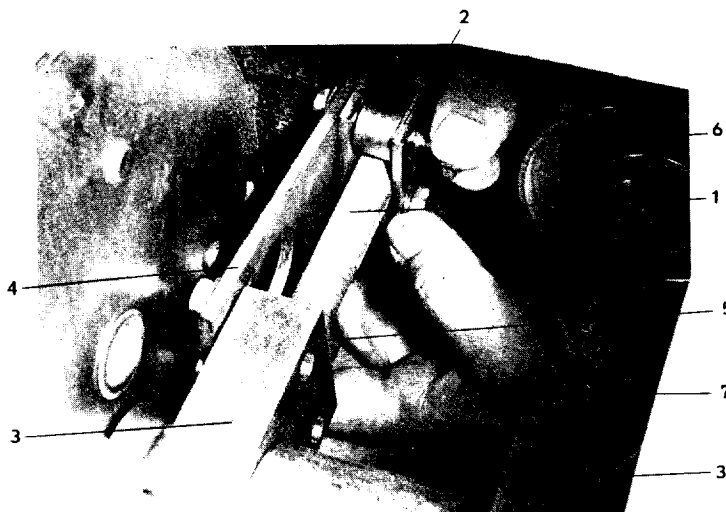
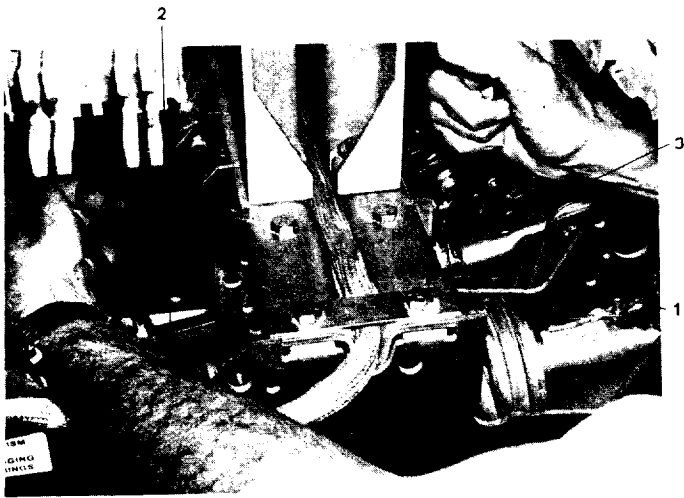

Fig. A10a Flywheel Brake
Fig. A10b Pull Rod
To remove the brake, remove the clamp, (2) Fig. A10a, that holds the brake assembly to the pullrod and then remove the two bolts that mount the brake to the flywheel block. Reinstall the new brake in the reverse order.
Charge and gag the closing spring and press the manual close push button. Remove the flywheel brake assembly (Reference paragraph A.5.20). The pull rod is a turn buckle arrangement with right hand threads on one end and left hand on the other. Loosen the jam nuts, (5) Fig. A10a and (3) Fig. A10b, on each end of the pull rod and remove the pull rod by unscrewing it. Remove the jam nuts and install them on the new pull rod. Install the new pull rod and screw both ends in simultaneously. Set the length of the pull rod initially to approximately 13¼ inch between the flywheel block, (3) Fig. A10a, and the coupling, (1) Fig. A10b, attached to the adjustable throw transfer crank. Adjust the pull rod length as described in paragraph 5.3.
To remove the closing spring charge and gag it and push the manual close push button. Push the manual trip push button to assure that the breaker is open. Disconnect the closing spring assembly, (6) Fig. A10a, by driving the roll pin out that connects the closing spring assembly to the flywheel block. The closing spring can then be removed through the bottom of the breaker.